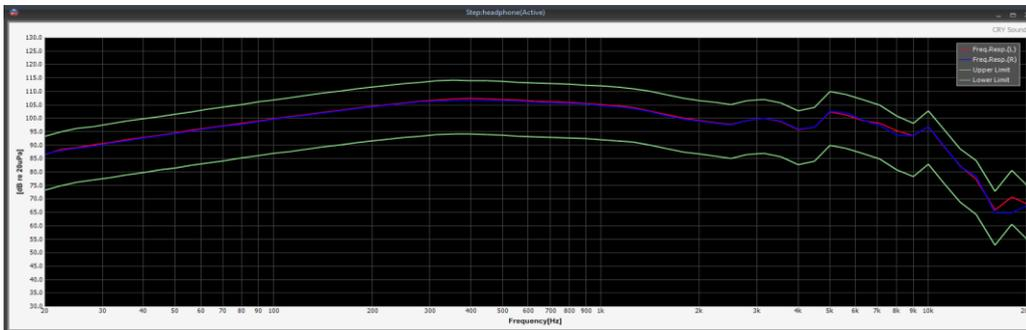

Figure 5.13 Upper and Lower Curve limits of Frequency Response and Measured Curve
- (3) The curve limits are drawn. Two green curve limits in Figure 5.13 are curves obtained by translating the measured curve up and down by 10dB.
- (4) Click “OK” to exit the curve limits setup interface. When running, as long as the measured curve is in the curve limits, it shall be judged as pass. Otherwise, it fails.